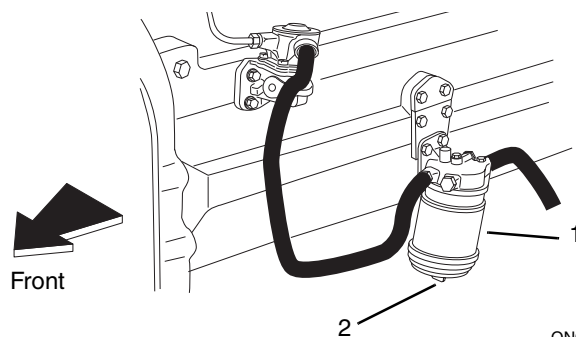

Figure 10-13 Drain Fuel Pre-Filter
2. The fuel pre-filter/water separator (Fig. 10-13, 1) is located on the left side toward rear of engine.
3. Open the drain valve (Fig. 10-13, 2) on the underside of the water separator.
5. Close the drain valve (Fig. 10-13, 2).